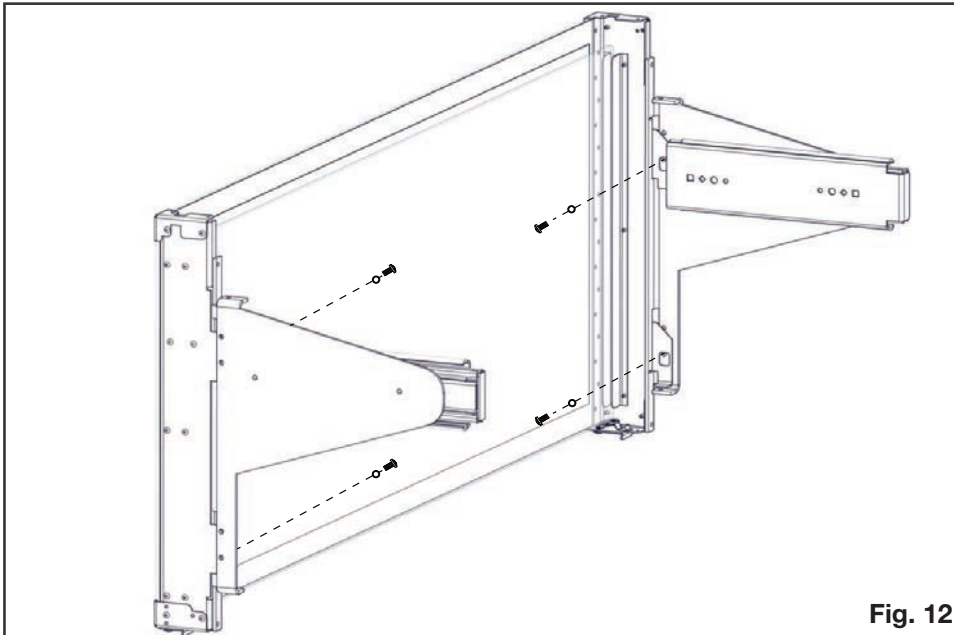

Fig. 12
- Secure GGA-1 with 1 fastener and 1 washer on top and bottom of each GGA-1 slider bracket (total of 4) holding the GGA-1 tight to the GGA-1 slider bracket surface throughout **(Fig. 12)**. Tighten firmly enough to hold GGA-1 against GGA-1 slider bracket. Do not fully tighten until adjustment is complete and during final GGA-1 installation.